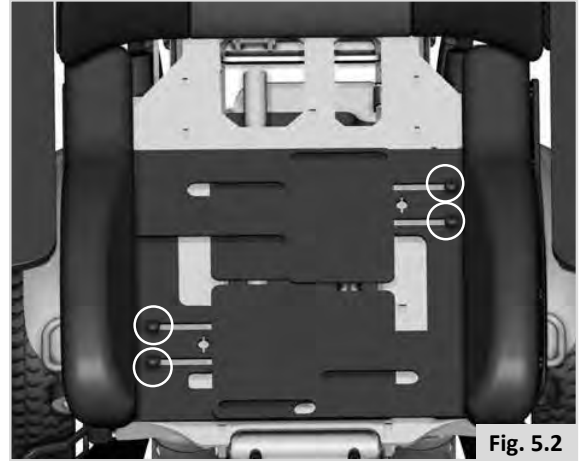

Fig. 5.2
- Adjust the seat plate width by loosening the four screws, circled in Fig. 5.2.
- The seat width is indicated by the scale that runs alongside each slot, Fig. 5.2.